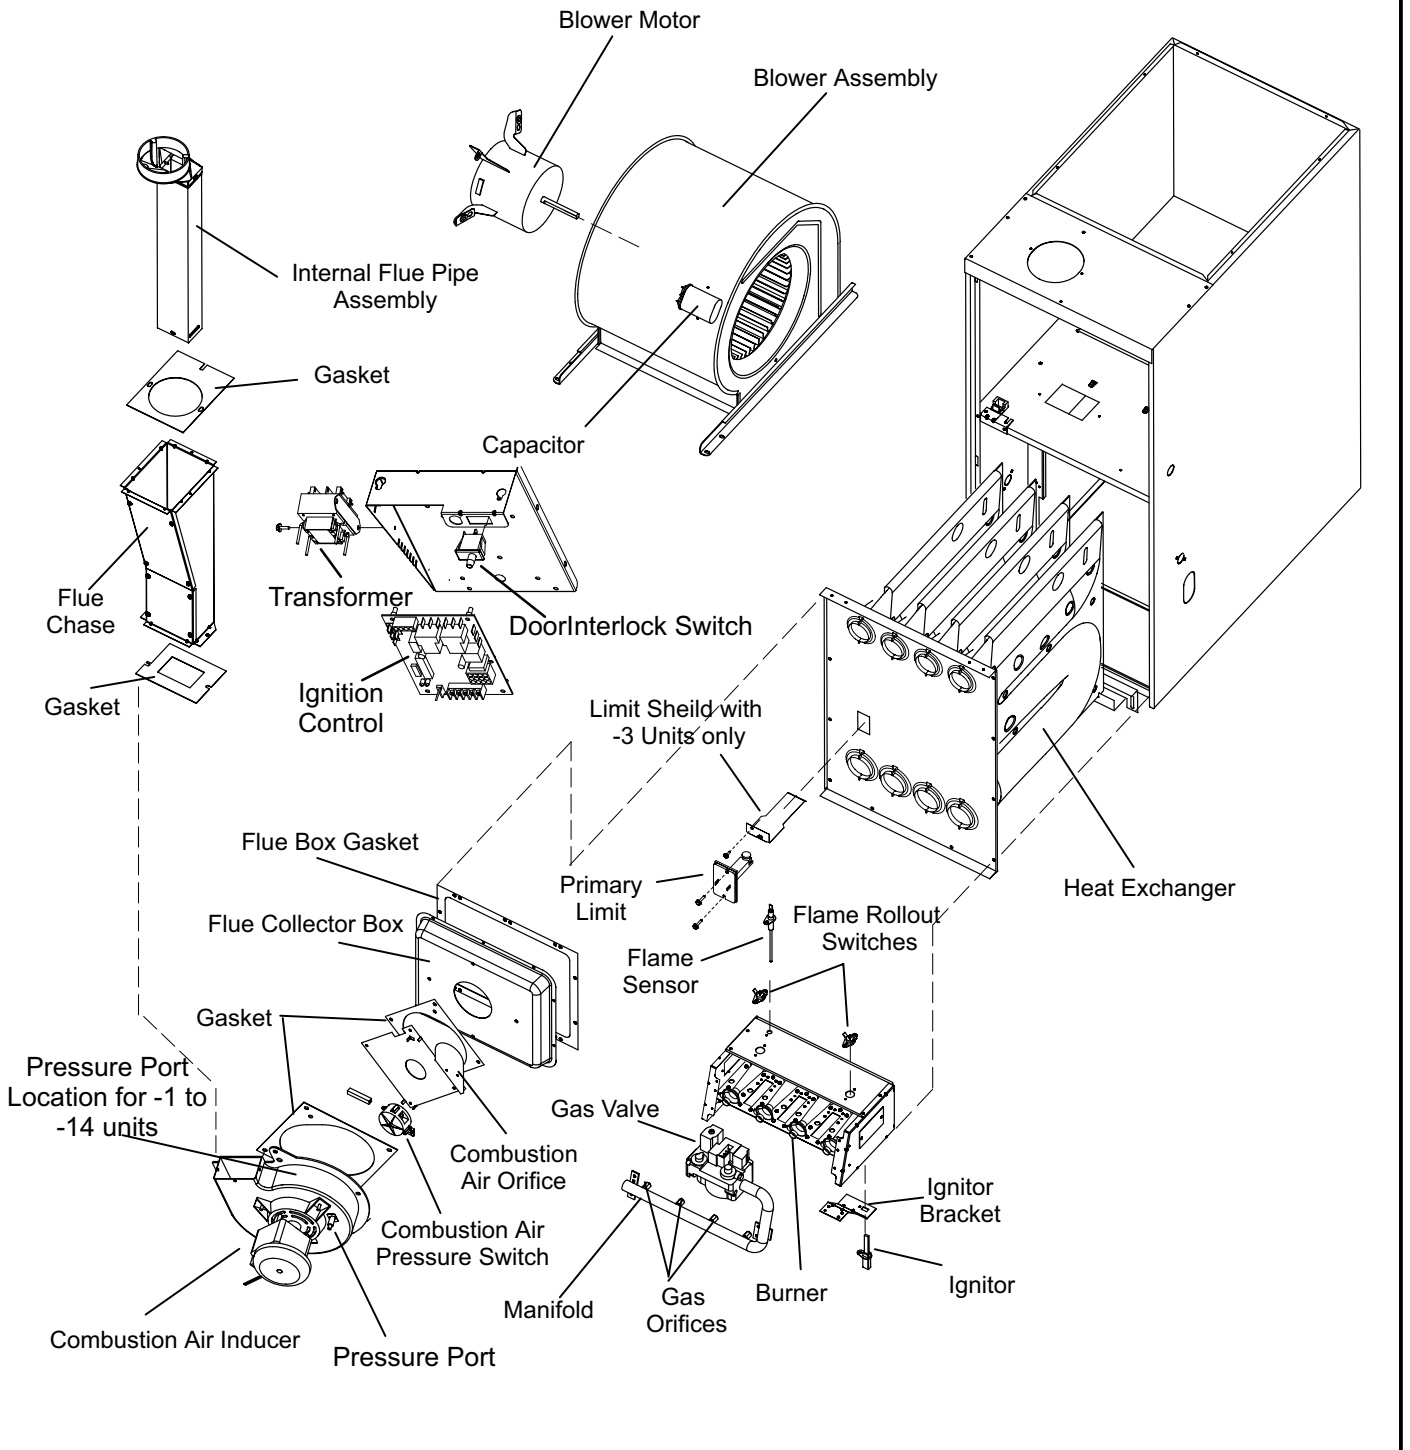
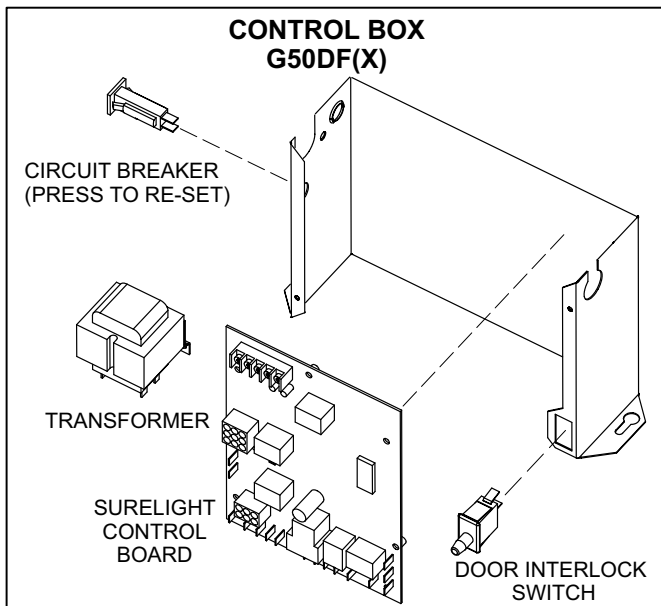

FIGURE 1
FIGURE 2
G50DF(X) unit components are shown in figure 1. The gas valve, combustion air inducer and burners can be accessed by removing the burner access panel. Electrical components are in the control box (figure 2) found in the blower section.
A 24V circuit breaker is also located in the control box. The switch provides overcurrent protection to the transformer (T1). The breaker is rated 3A at 32V. If the current exceeds this limit the breaker will trip and all unit operation will shutdown. The breaker can be manually reset by pressing the button on the face. See figure 2.